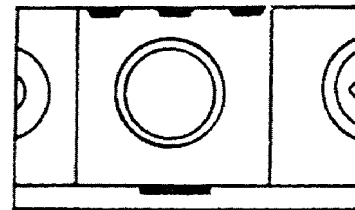

Figure 1-5. Center.
b. Magnifier (fig 1-5) - enlarges a portion of the image for sharpest focusing. Swings up out of the way for normal viewing.